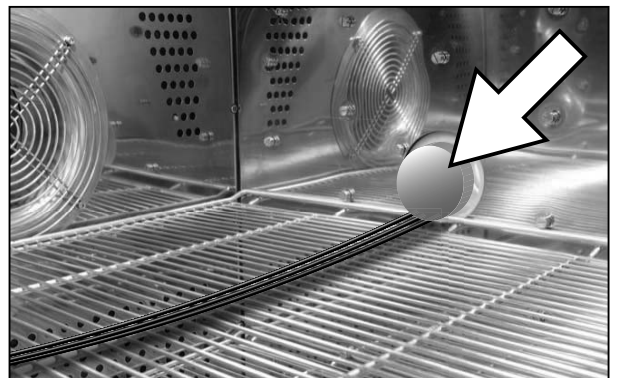

Fig. 17 Cable feed-through with plugs in the right-hand side of the appliance
4. Check whether the silicone plugs have been inserted into the feed-through on the right side of the appliance and if the seal is tight (see Fig. 17 on page 26).
The pressure compensation can be accelerated considerably by removing the silicone plugs (Fig. 17 on page 26).
For test samples which require wires during the test (for power supply or for measuring purposes), the test chamber is equipped with a cable feed-through on the right-hand side (Fig. 17, see also page 10).
Pull out the silicone plugs if they are plugged in (Fig. 17), and push the wires into the interior of the chamber. Then re-insert the plugs and press them tight, so that no heat/humidity can escape from inside the chamber through the feed-through.